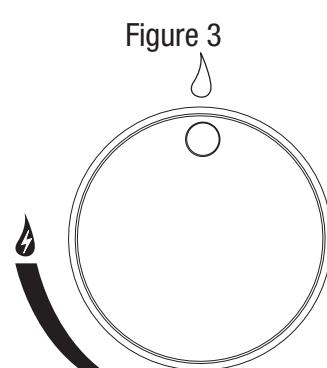

Figure 3
2. Make sure control knobs are Δ (OFF) position. (Figure 3)